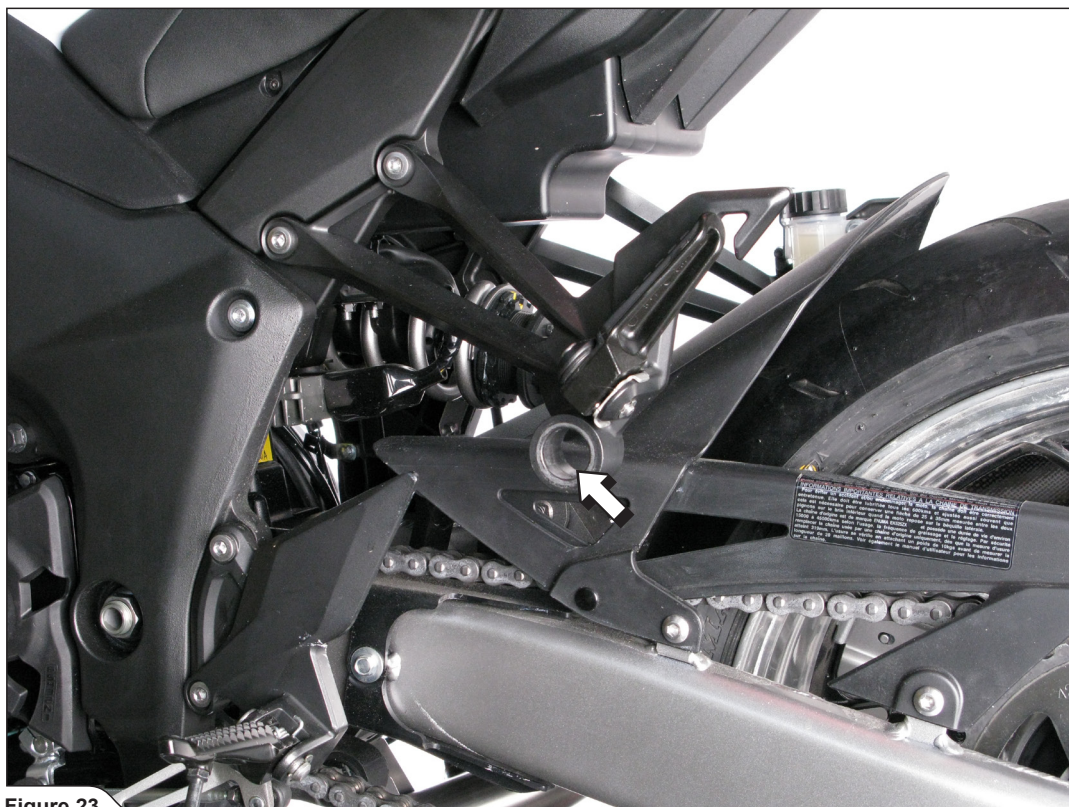

Figure 23
9. Remove the stock metal collar and rubber damper from the left muffler hanging bracket (**Figure 23**).